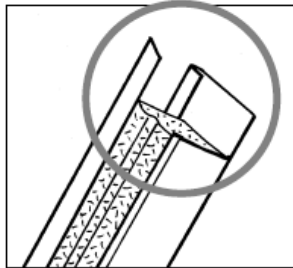

Figure 1
2. Measure and cut a 7/8" notch off the window J receiver on both ends of the lineal. Cut the same 7/8" notch out of the J pocket of the lineal, again on both ends. Cut back the foam to these notches. (figure 1,)
2. Make the same 7/8" notches to the top of the side lineal as are shown in figure 1. Cut back the foam to the notch.